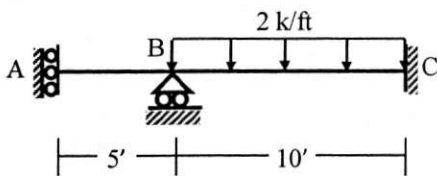

Figure 3
3. Determine the joint deflections and rotations of the beam loaded as shown in Figure 3 [Given:  $EI = 40 \times 10^3 \text{ k-ft}^2$ ].